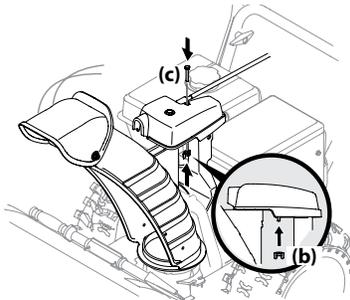

Figure 2-38
4. Finish securing chute control head by installing hex screw (c) and wing nut (b) removed in Step 1. See Figure 2-38.